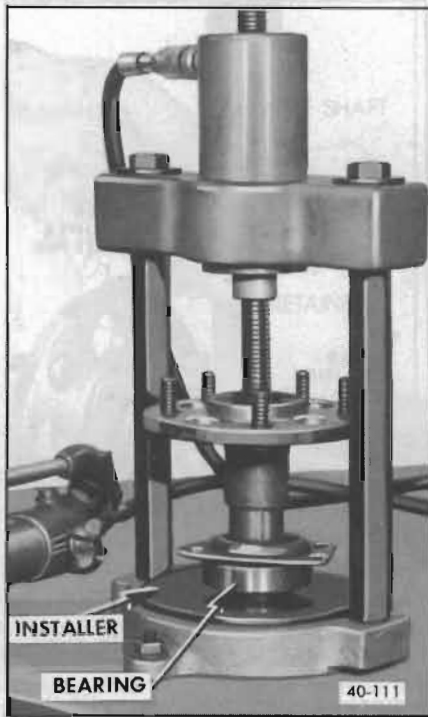

Figure 40-98—Installing Axle Shaft Bearing
3. Press new bearing against shoulder on axle shaft using Installer J-8853 with Holder J-6407. See Figure 40-98.